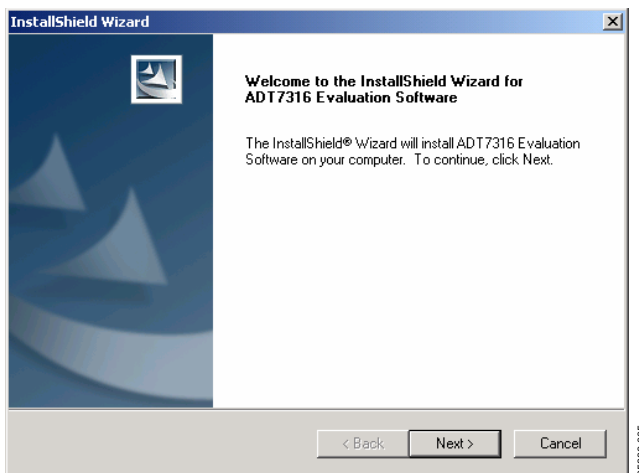

Figure 2. InstallShield Wizard Start-Up Screen
5. Extract the files needed to install the software and start the InstallShield Wizard as shown in Figure 2.